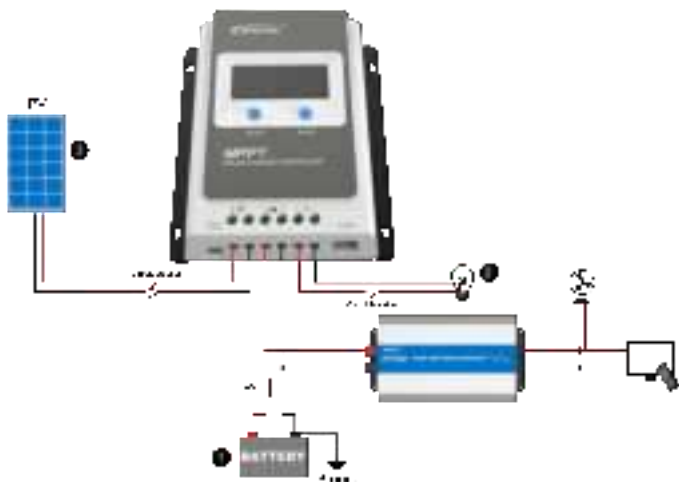

Figure 2-2 Schematic Wiring Diagram
Step 2: Connect the system in the order of battery  -- load  --PV array  following Figure 2-2," Schematic Wiring Diagram," and disconnect the system in the reverse order.